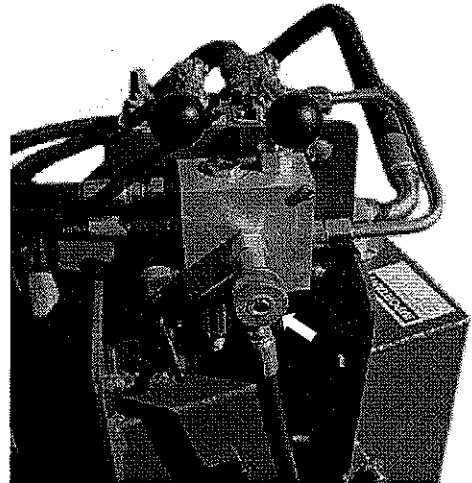

figure 13
- c. Turn the control knob (figure 13) out completely. Raise engine speed to 1500 rpm. Then, engage the sweeper. Sweep in 1 spot for 10 seconds. Stop the sweeper.